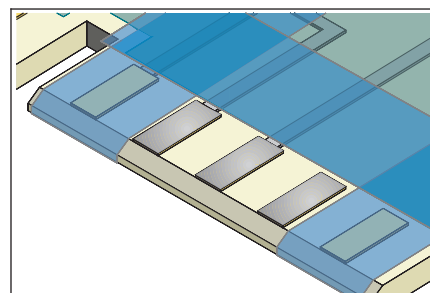

Figure 2 Flow solder.
3. Flow solder over the entire area of any contacts that have contamination using a soldering iron. This provides a more even surface when plating. Remove the bulk of the solder contamination using desoldering tools or desoldering braid. (See Figure 2.)